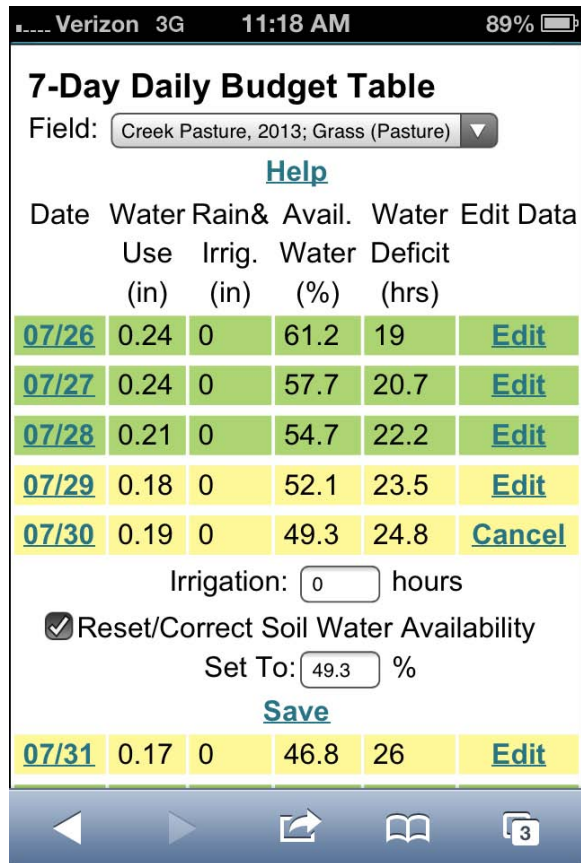

Figure 12. Reset/Correcting Soil Water Availability
**Reset/Correct Soil Water Availability:** Check this box to overwrite the calculated percent of available soil water with an entered number (Figure 12). You might want to do this to correct the model to make it better match observations or a soil moisture measurement. The model will use your entered value as the new value and will calculate the estimated soil water content from that point on. Unchecking this box will make model return to the calculated value.